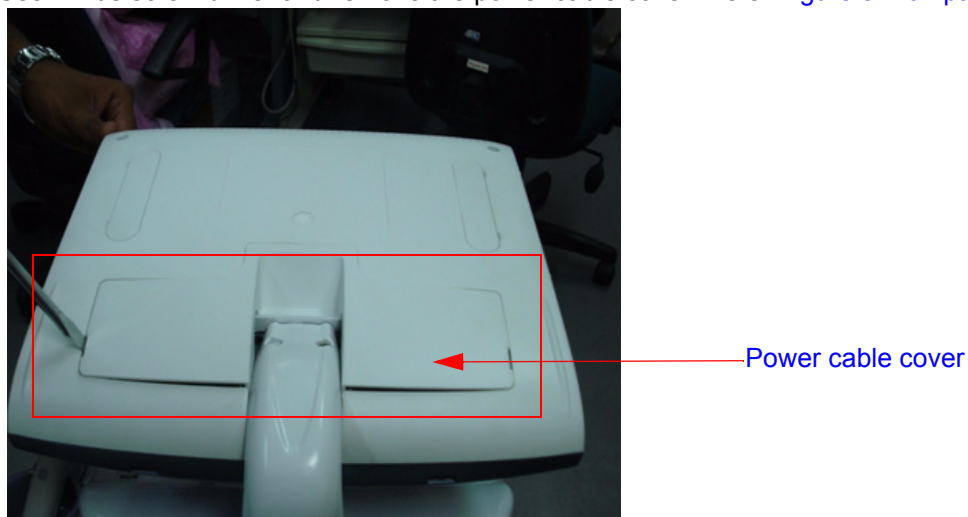

Figure 8-2 Power cable cover
4) Bend the LCD monitor as shown below Figure 8-2 on page 8-5
5) Use minus screw driver and remove the power cable cover. Refer Figure 8-2 on page 8-5